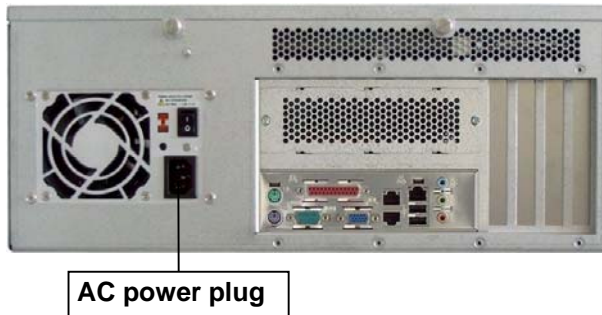

Fig. 23: AC Power connection (version with motherboard)
2. Connect the supplied AC power cord into the system AC power plug (see *fig. 23 respectively 23a*).